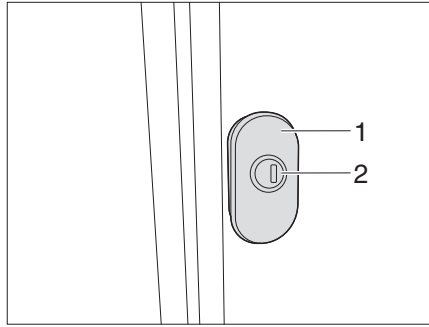
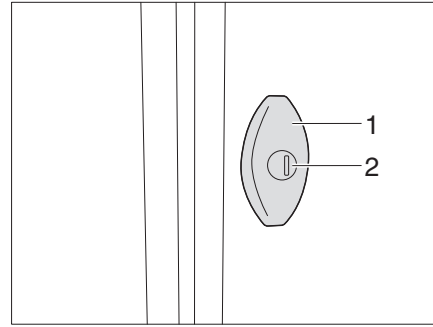

Fig. 51 Turnbuckle lock (variant 1)
Fig. 52 Turnbuckle lock (variant 2)
- Insert the key into the locking cylinder (Fig. 51/ Fig. 52, 1) and turn a quarter turn. The flap lock is unlatched.
- Pull on the turnbuckle lock (Fig. 51/ Fig. 52, 2) and rotate anticlockwise through 180°. The external flap is open.